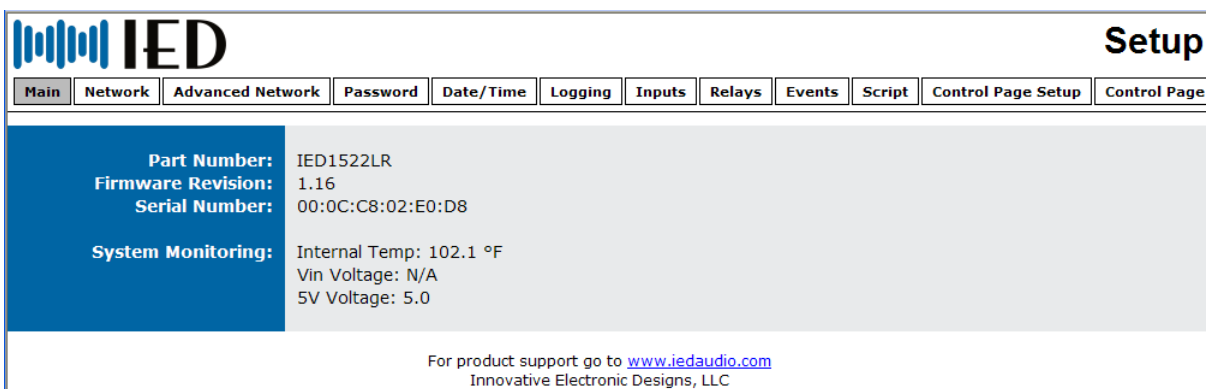

Figure C-7: Initial 1522LR Setup Screen
3. Configure the 1522LR using a web browser like Internet Explorer. Do this by pointing browser to the URL **http://10.2.150.175/setup.html**. The login username is admin and the password is iednet (all lower case). The initial screen one should see is shown in Figure C-7.